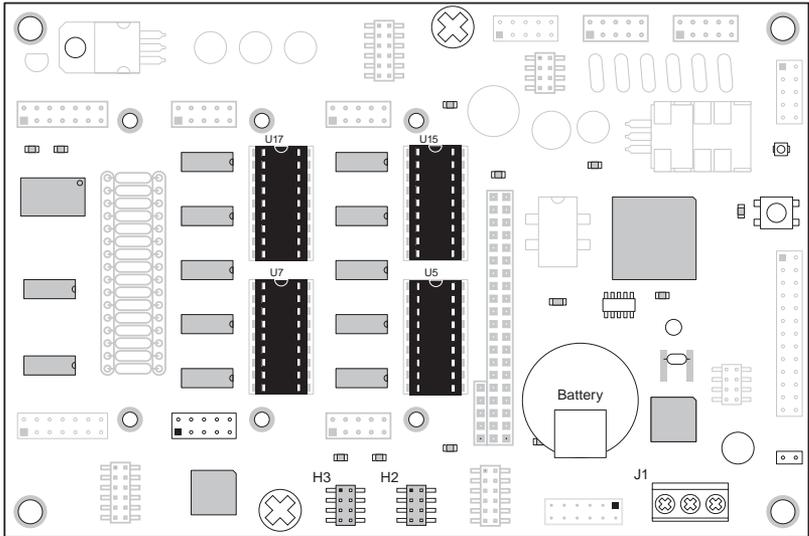

Figure 4-8. Locations of Headers and Sinking Drivers
Figure 4-8 shows the location of the driver chips and the headers whose jumpers need to be changed.
3. Install the jumpers on header H3 for the sourcing configuration, as shown in Tables 4-3 and 4-4. Note the location of pin number 1 in Figure 4-8.